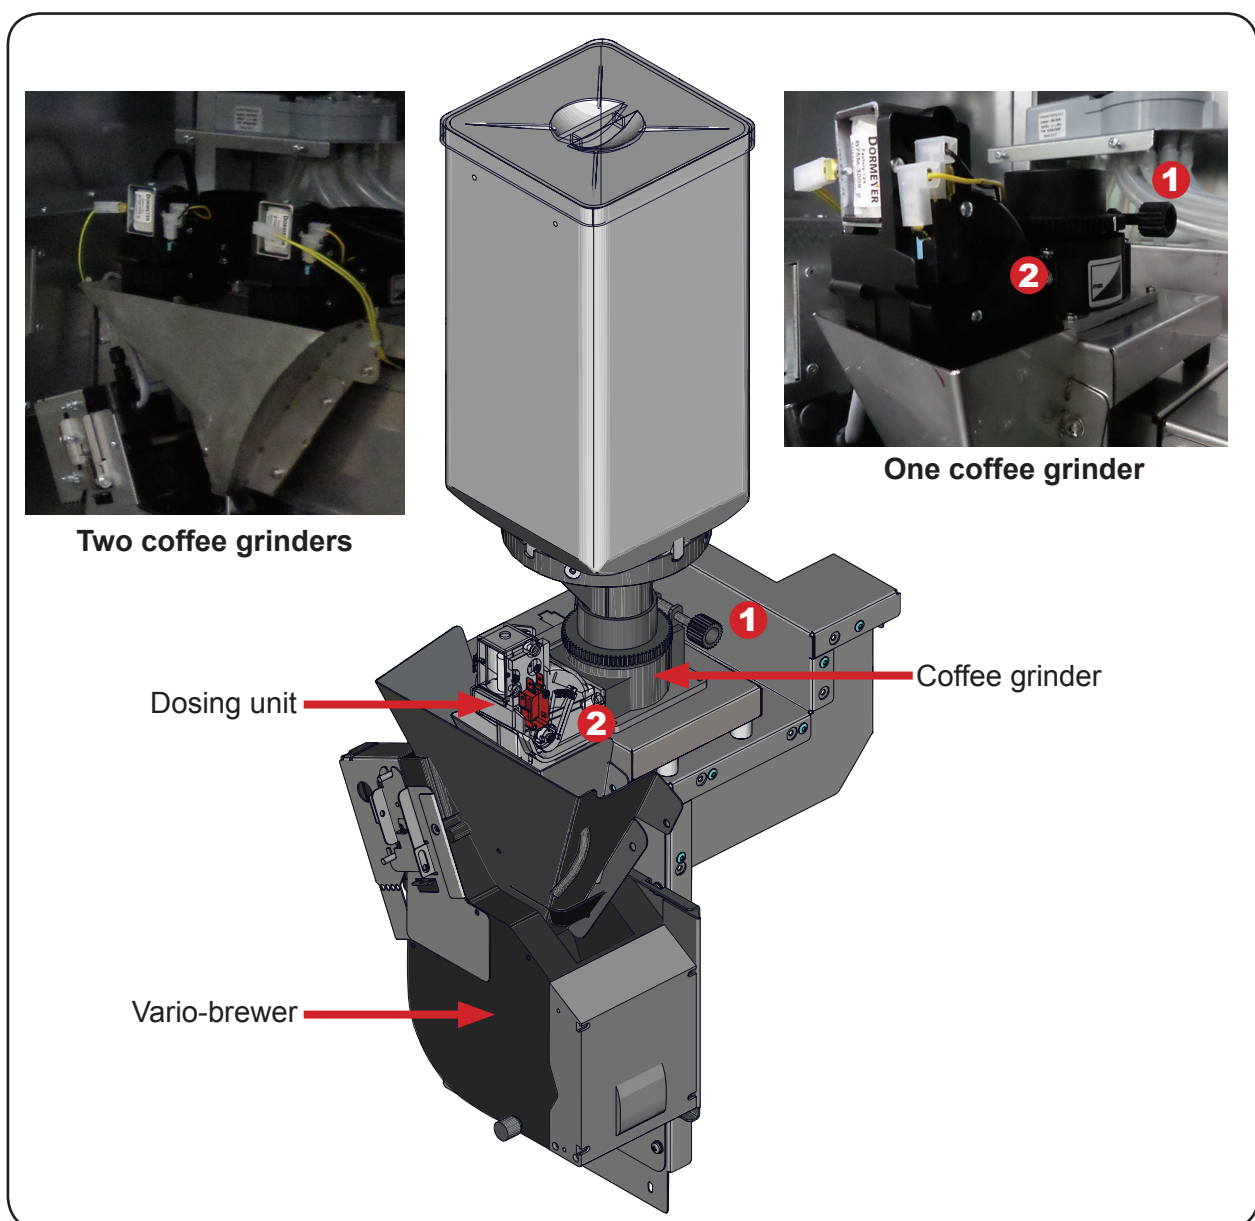

Fig.6.21 - Grinding quality adjustment
The quality of grinding of coffee depends on the rotation of the screw, located on the coffee grinder (see fig.6.21 pos.1). **Turn the screw clockwise grind more (smaller particles) or counter clockwise to grind less (larger particles).**